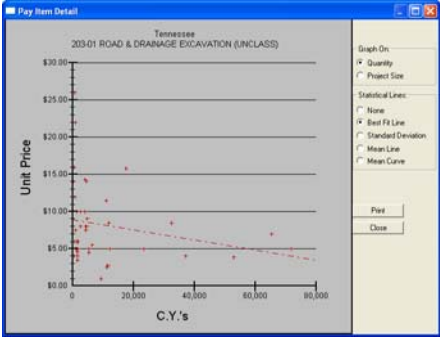

Figure 2.3f
- GRAPH** This option will display a point graph with all the data as shown on Figure 2.3f